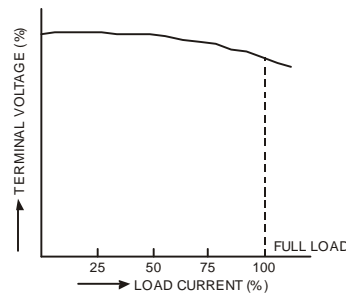

Fig. P8.4: Curve between I_L and V
The terminal voltage of an alternator drops with the increase in load (except for capacitive load which rarely occur on the system). In other words, it can be said that when full load is removed from the alternator, its terminal voltage increases as shown in fig. P8.4.
2. Plot a curve between I_f and V , the probable curves are shown in fig. P8.4.